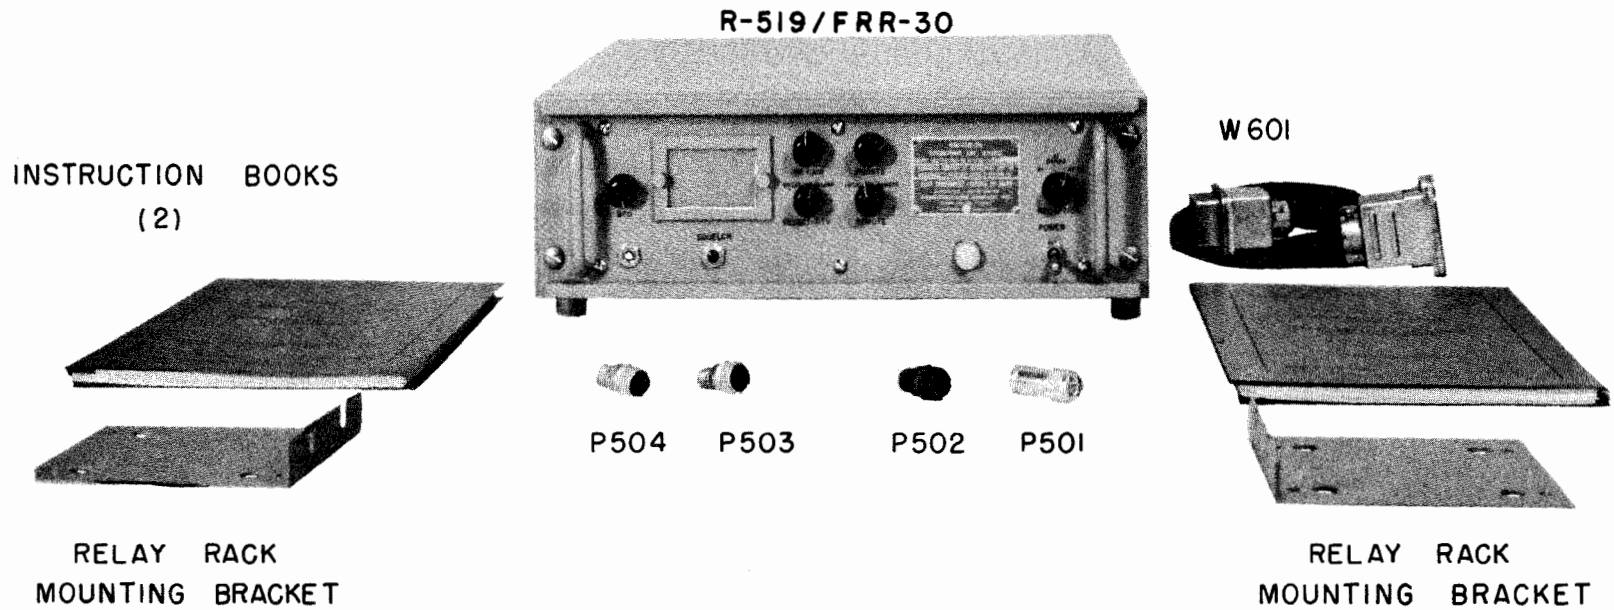

Figure 1-1. Photo—Radio Receiving Set AN FRR-30 Complete, Including Radio Receiver R-5 19 FRR-30 Brackets, Plugs, Test Cable, and Instruction Books
c. EQUIPMENT ARRANGEMENT.—Radio Receiving Set AN/FRR-30 is shown complete in figure 1-1. It consists of the receiver proper (Radio Receiver R-519/FRR-30); a pair of auxiliary angle brackets for relay rack mounting; a set of four mounting legs for table or bench mounting (shown already mounted in place in figure 1-1), a test cable (W601) for connecting the receiver chassis with the rear filter compartment during alignment; four plugs for use in fabricating external cables to the receiver; and two copies of the instruction book.